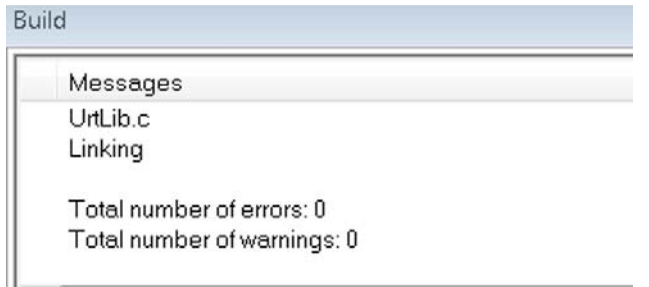

Figure 12. Project > Build
2. The message shown in Figure 12 appears in the **Build** window.